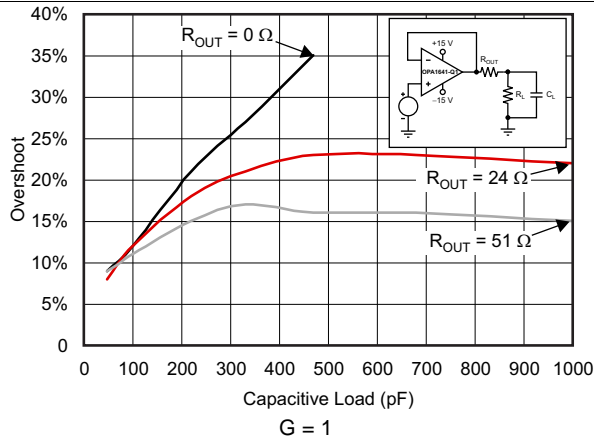
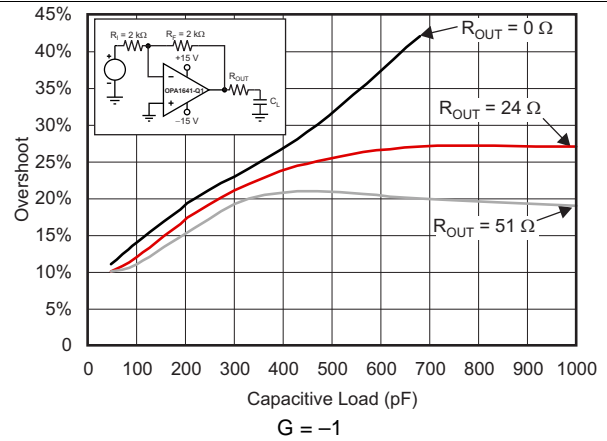

Figure 19. Small-Signal Overshoot vs Capacitive Load (100-mV Output Step)
Figure 20. Small-Signal Overshoot vs Capacitive Load (100-mV Output Step)
(1) Full power bandwidth =  $SR / (2\pi \times V_P)$ , where SR = slew rate.
(2) See Figure 19 and Figure 20.
Figure 19 and Figure 20 illustrate graphs of *Small-Signal Overshoot vs Capacitive Load* for several values of  $R_{OUT}$ . For details of analysis techniques and application circuits, see Feedback Plots Define Op Amp AC Performance available for download at [www.ti.com](http://www.ti.com)